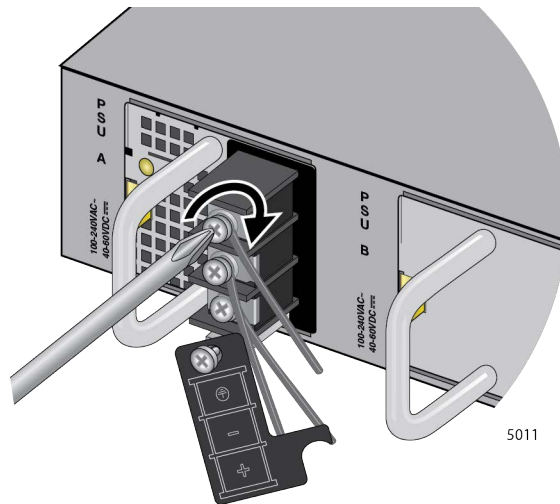

Figure 73. Tightening the Screw for the Negative (+)
- Wind the power wire and tighten the screw. Refer to Figure 73.